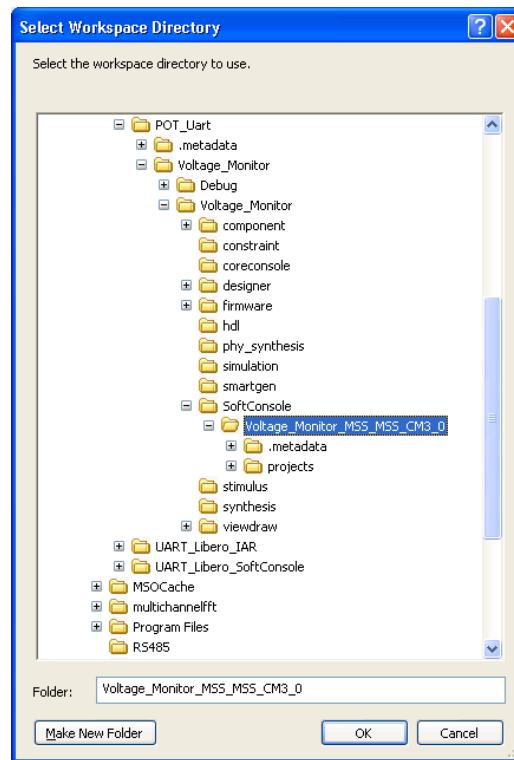

Figure 21 Specifying the Workspace
1. Invoke the SoftConsole project generated by Libero SoC v10.0 using **File > Switch Workspace > Other...** and browse to the SoftConsole workspace as shown in Figure 21.